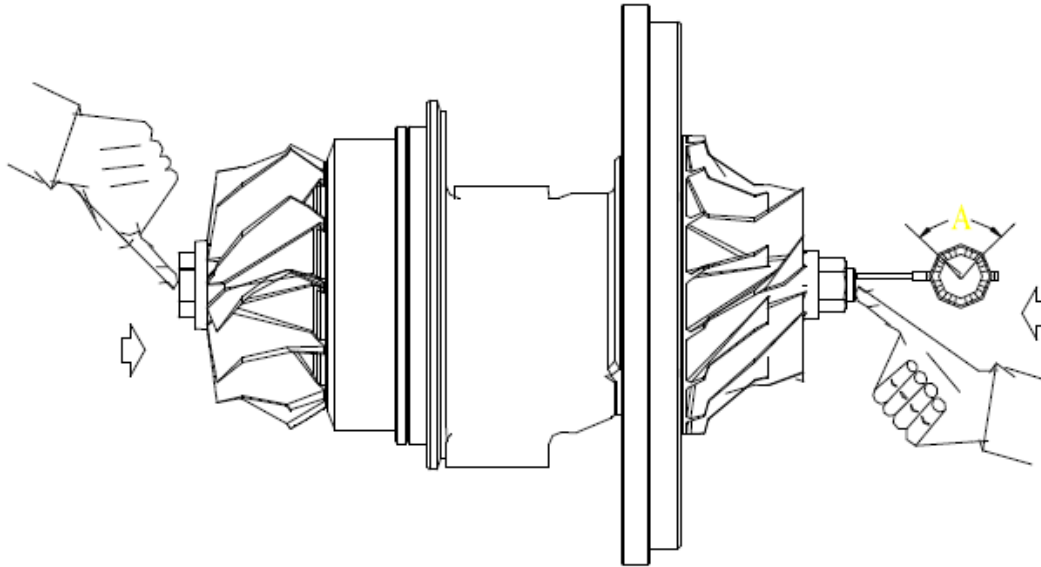

Fig. 4-36 Schematic of measurement of axial clearance
- b. Inspection of rotator axial play: the inspection head of micrometer should be pressed up against the air compressor head, then axially push or pull the shaft and record the difference of measured values, shown in fig. 4-36. The rotator axial play should be within 0.088~0.118mm. In case of exceeding this range, the thrust bearing plate or thrust plate and bearing body are worn, then find out the causes for troubleshooting.